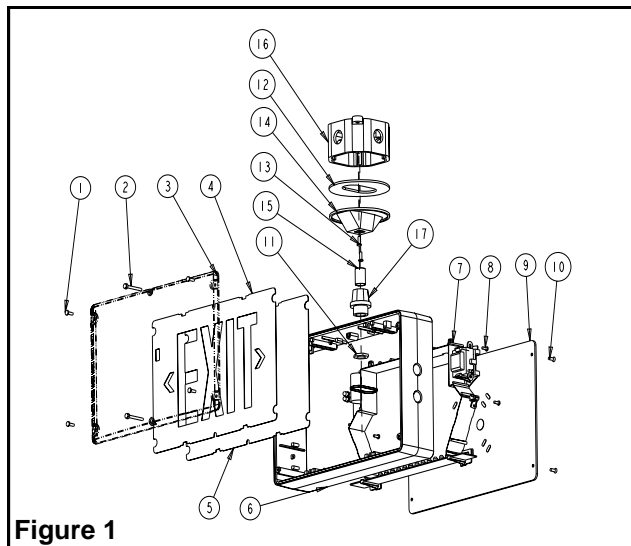

Figure 1
- e. Remove knockout on top of the frame. Determine which holes in the exit frame will be used for mounting (see fig.1). Support frame by two blocks of wood, maximum one inch apart. Strike knockouts with a hammer and screwdriver. Clear holes of burrs to allow proper assembly of nipple/wire assembly.